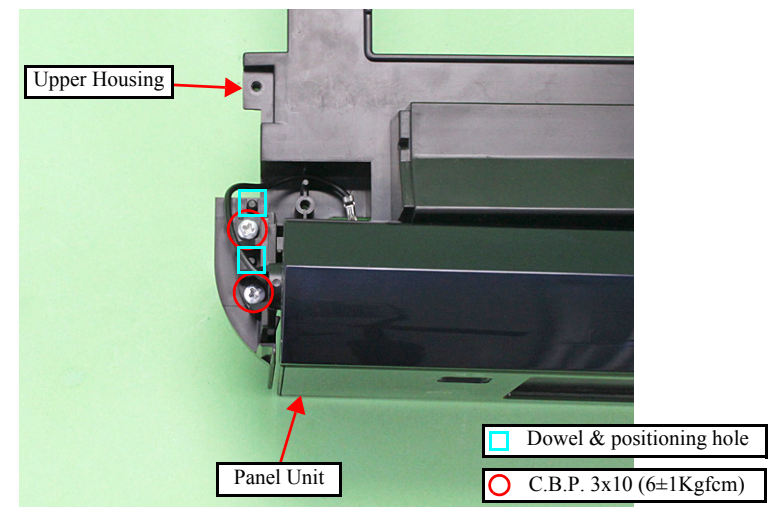

Figure 9-25. Removing the Panel Unit (1)
- When installing the Panel Unit, align the positioning hole on the left side of the Panel Unit with the dowel of the Upper Housing. (See Fig. 9-25.)